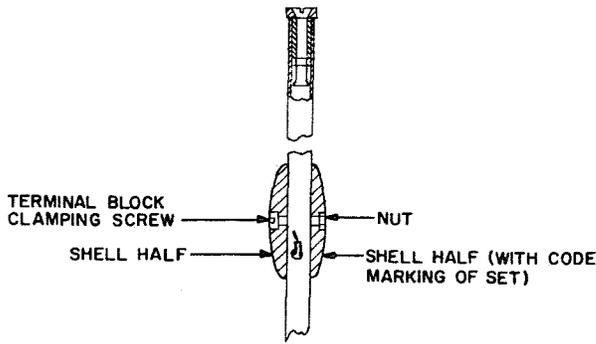

Fig. 12A
3.35 To replace any of these parts, remove the terminal block clamping screw and nut shown in Fig. 12A using the R-1005 jewelers screwdriver, and remove the shells. When the shells are of the earlier type, discard them. The earlier-type shells may be distinguished from the later-type shells by their diameter. The earlier shells have a diameter of a U.S. 5-cent coin and the later-type shells have a diameter of a U.S. 25-cent coin.